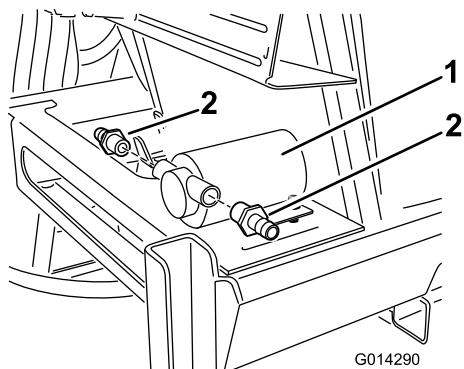

Figure 20
4. Install a connector to the pump inlet and outlet openings (Figure 20).